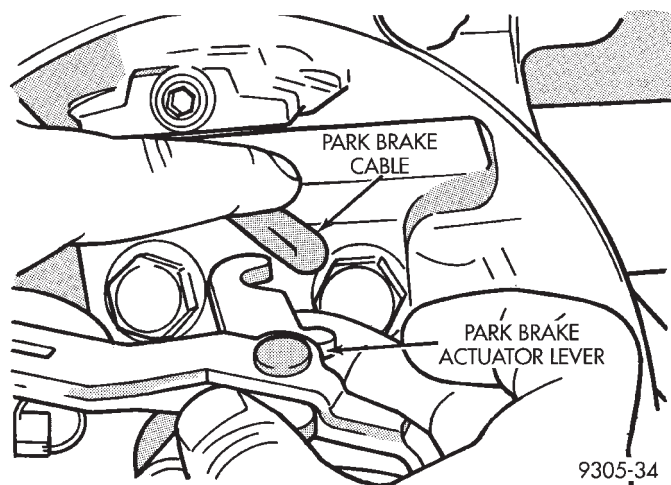

Fig. 1 Removing Park Brake Cable From Park Brake Lever
(4) Disconnect park brake cable from park brake actuator lever (Fig. 1).